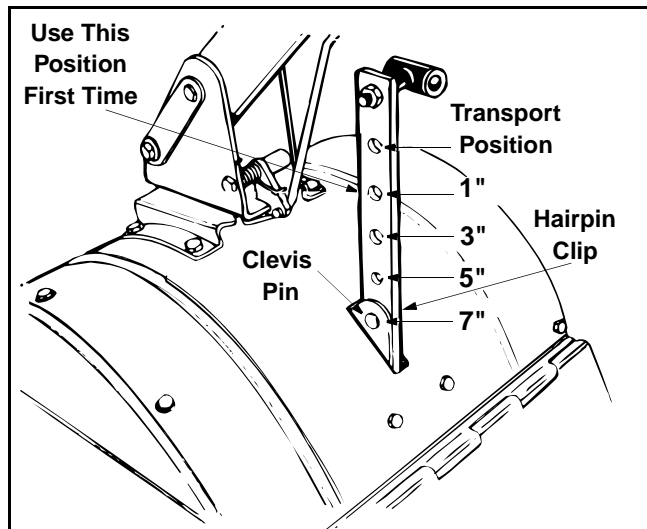

Figure 10
IMPORTANT: When operating the tiller for the first time, use the depth stake setting that gives 1 inch of tilling depth (second hole from the top). See Figure 10.
- When using the tiller for the first time, use the second adjustment hole from the top (1" of tilling depth). See Figure 10.
To adjust the depth stake, remove the clevis pin and hairpin clip. Move the depth stake to the desired setting. Secure with the clevis pin and hairpin clip. See Figure 10.